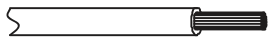

Fig. 38 — Stripping The Wire
2. Strip a suitable length of the insulation layer as shown in Fig. 38.